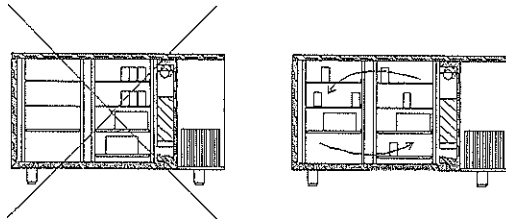

fig.2
**IMPORTANTE: EVITARE DI SOVRACCARICARE IL MOBILE, IN PARTICOLARE VICINO L'EVAPORATORE (fig.2).**